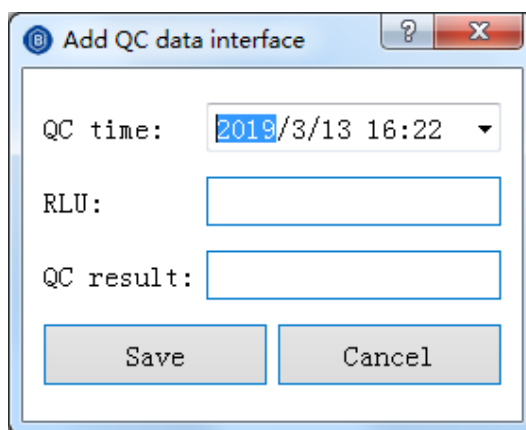

Figure 8.6.14 Modify QC data
- the **Update QC data** interface will pop up, as shown in Figure 8.6.14.